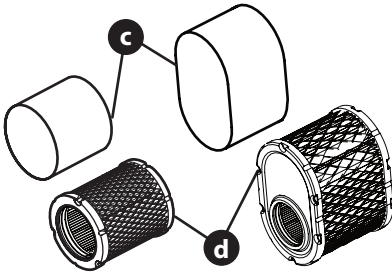

Figure 11
4. Remove the foam pre-filter (c) from around the paper air filter (d) (Figure 11). Replace paper element when dirty or damaged. Clean foam element or replace when damaged.